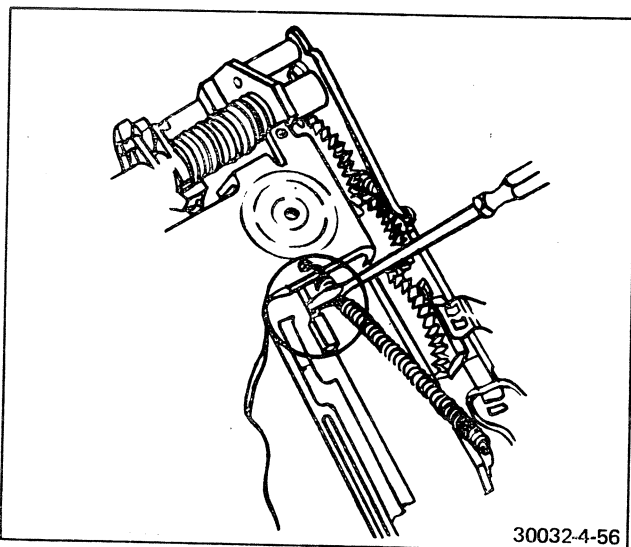

FIGURE 4-56 RELEASE BOOT RETAINER
16. Refer to Figure 4-56. Use a narrow-blade jeweler's screwdriver. While pulling the corner of the mirror cover away from the frame, depress the boot retainer tab to clear the retaining stud. Release the pressure as soon as the tab snaps free.